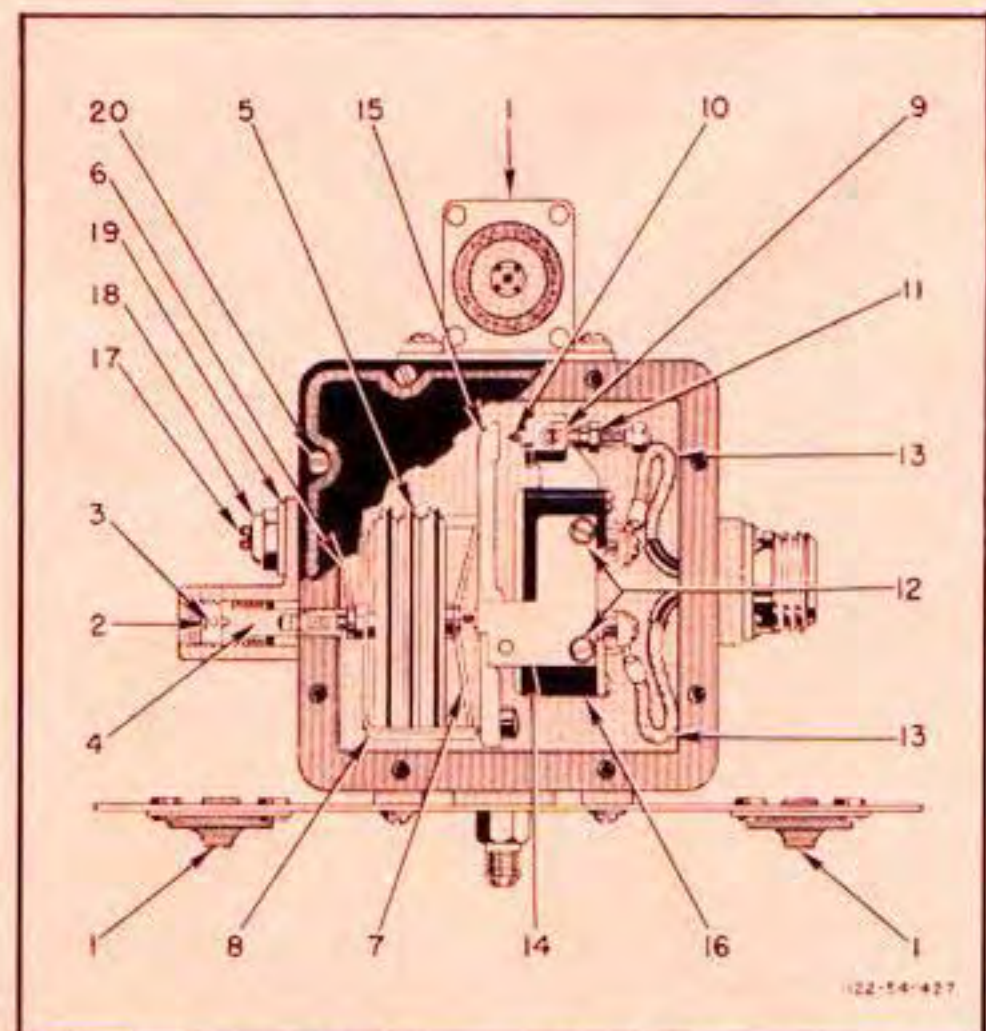

Figure 358A—Square "D" Aneroid Switch Details
Do not remove the compensating pins (figure 358A) from the original position on the temperature compensator.
KEY TO FIGURE 358A
1. Remove the two microswitch mounting screws (figure 358A) and lift the unit out of the case.